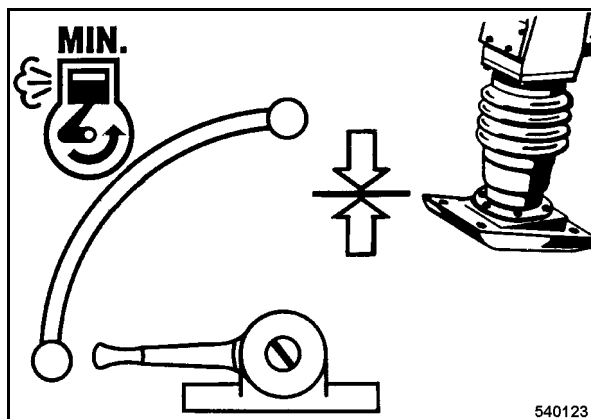

Fig. 20
- Always shift the throttle lever to position "MIN" for short work breaks (Fig. 20).